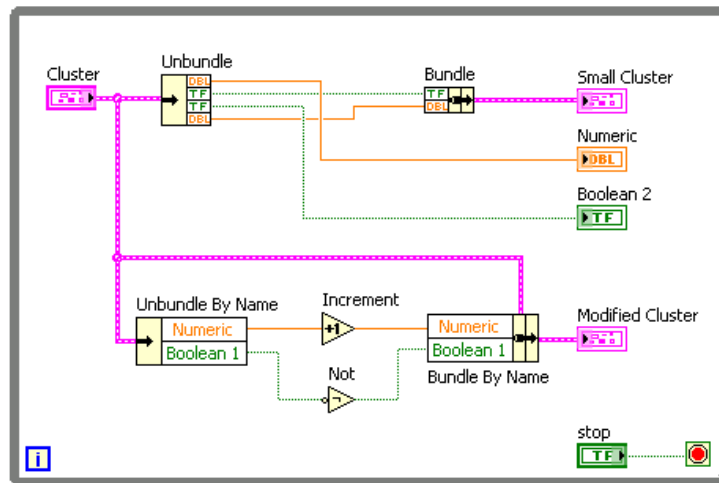

Figure 4-23. Cluster Experiment VI Block Diagram
In the following steps, build the block diagram shown in Figure 4-23.
- Wire the Bundle function as shown in Figure 4-23.
15. Complete the block diagram and wire the objects as shown in Figure 4-23.